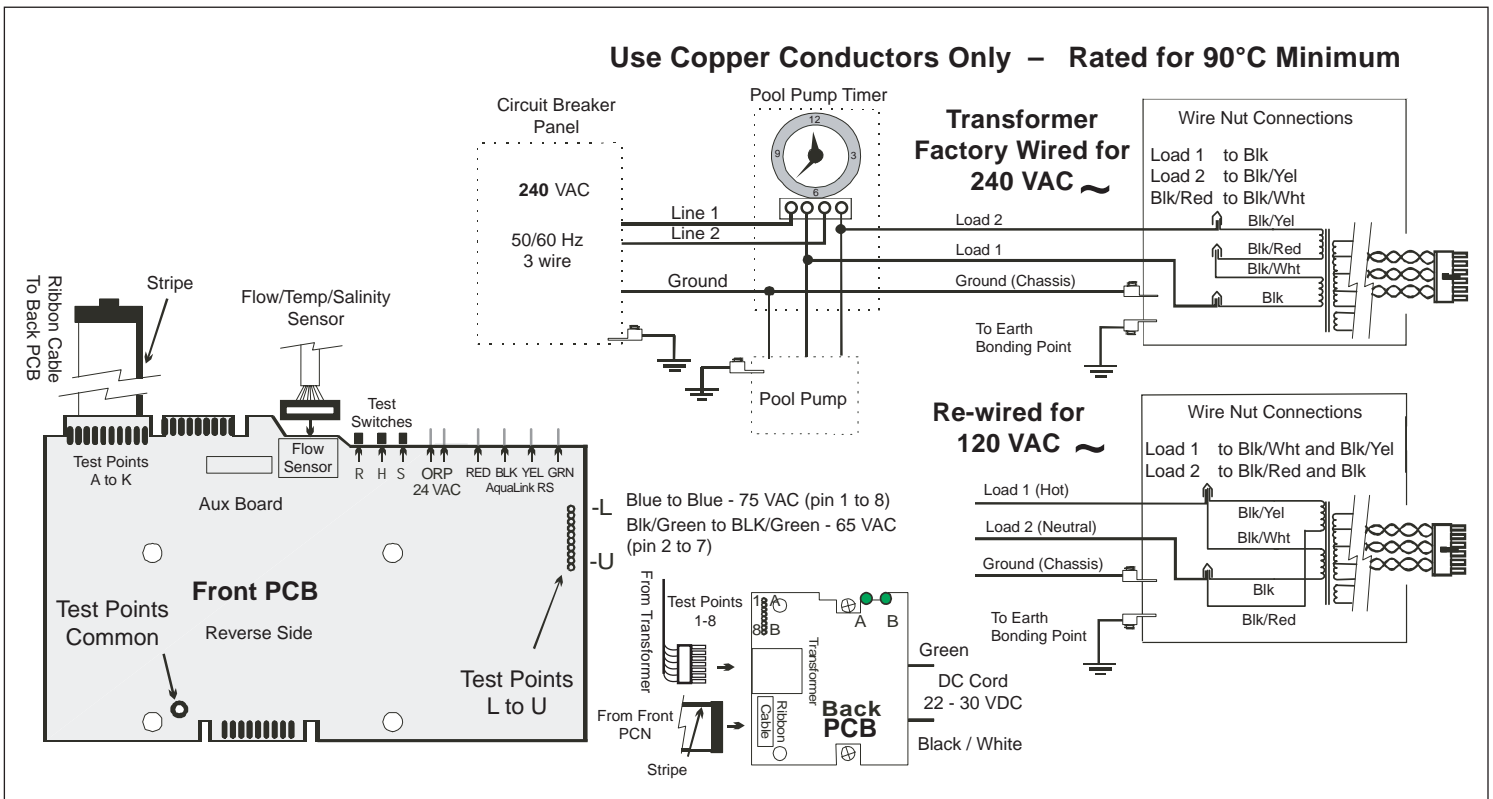

Figure 2. APURE700 and APURE1400 Wiring Diagram
**Factory wired for 240 VAC service.** If available electrical service is 120 VAC, the power supply wiring must be changed to operate on 120 VAC as shown in the wiring diagram below. (Figure 2.)
6. Check source voltage. (All units are factory wired for 240 VAC). ***In order to use on 120 VAC, the internal factory wiring of the control center must be changed. (See wiring diagram page 6 Figure 2).***
7. Use #12/3 insulated wire and conduit. Wire control center transformer to pool pump power source. The control center should be connected to the pump motor switch or automatic timer (Pool Pump Timer) as shown in the diagram on page 6 Figure 2. ***The flow portion of the Flow/Temp/Salinity Sensor is a backup device only.*** Attach the third wire (**Ground**) from the electrical panel to the ground point inside the Control Center. ***Earth bonding in Section 3.4 must also be accomplished to ensure personal safety and safety of equipment.***
7. Feed the connector end of the Flow/Temp/Salinity Sensor cable through the DC cord strain relief fitting located in the bottom of the control center chassis backplate. ***Be certain the connector is clean and dry***, then plug the cable into the connector on the control center Printed Circuit Board as shown on page 6 Figure 2. ***(Do not pull Flow/Temp/Salinity Sensor cable too tight, allow a little slack).***
9. Connect the DC cord to the control center. Feed the DC cord through the same strain relief fitting as the Flow/Temp/Salinity Sensor. Plug the DC cord into the two push-on connectors located on the control center Printed Circuit Board as shown in Figure 2 on page 6.
12. If disconnected, plug the ribbon cable attached to the front cover PC board into Printed Circuit Board mounted on the backplate (See page 6 Figure 2). Now reattach the control center front cover to the backplate.